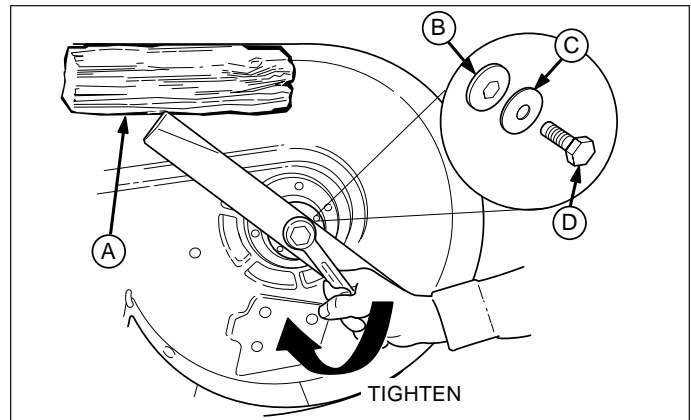

Figure 18. Installing The Blade - 44" Models
3. **44" Mowers:** Remove the capscrew (D, Figure 18), spring washer (C), hex washer (B), and blade.
6. Reinstall the blade (Figures 18 & 19) with the tabs pointing up toward the mower deck as shown. Reinstall the alignment pin (E).
7. **44" Mowers:** Reinstall the hex washer (B, Figure 18), spring washer (C) and capscrew (D). Use a wooden block (A) to prevent blade rotation while tightening the capscrew (D) to 61-75 N.m (45-55 ft. lbs.).